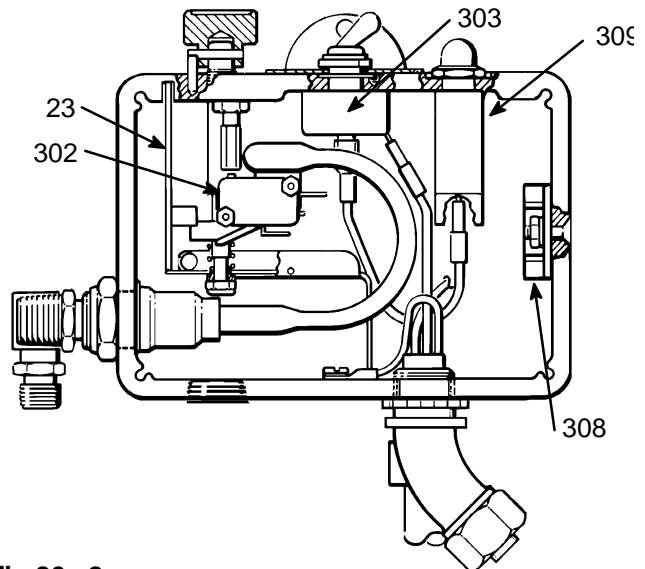

Fig 20-2
Disconnect the two leads from the motor to the bridge (308). See Fig 20-2.